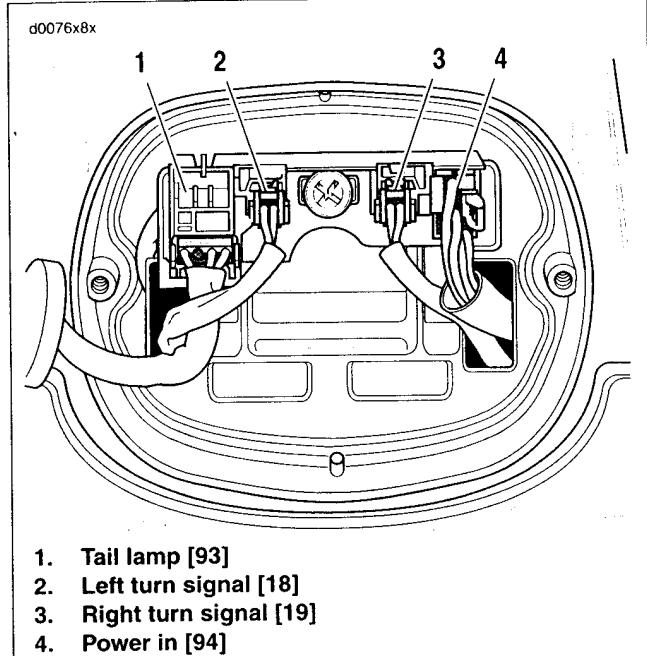

Figure 8-39. Wire Location at Connectors
8. See Figure 8-39. Install connectors to circuit board.